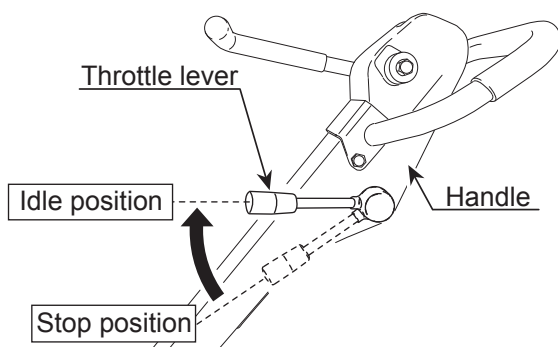

Figure 11. Throttle Lever (Idle Position)
2. Move the throttle lever (Figure 11) to the *idle* position.